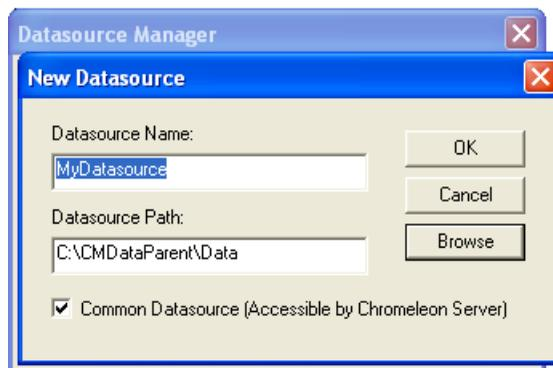

Figure C-7. Creating a New Datasource
- c. Click **New**. The New Datasource dialog box appears (see Figure C-7).